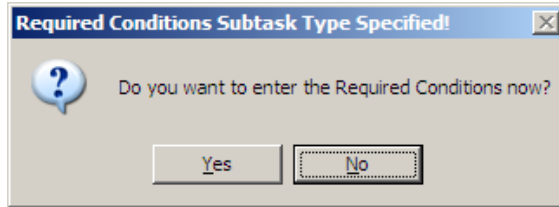

Figure 11. Enter Required Conditions?
- When prompted "Do you want to enter the Required Conditions now?" as shown in Figure 11, choose the **Yes** button. If you are using DEF STAN 00-60 V8 ELT, the Task/Subtask Associated Narrative Window is displayed. Close this window.